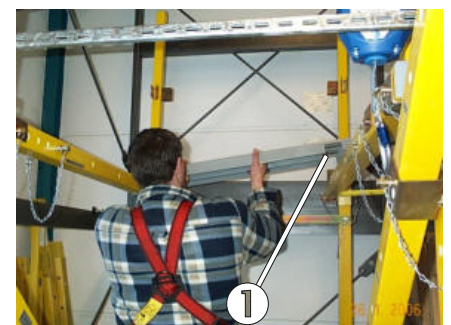

Fig. 85: Laying the upper floor panels
The floor panels can be laid in the next step. You begin with the standard panels which have U-shaped milled edges at the end. Starting at the rear, lay the panels and push them to the rear until they reach the stop position. The milled edges should be laid onto the upper horizontal bar (fig. 85/pos. 1).